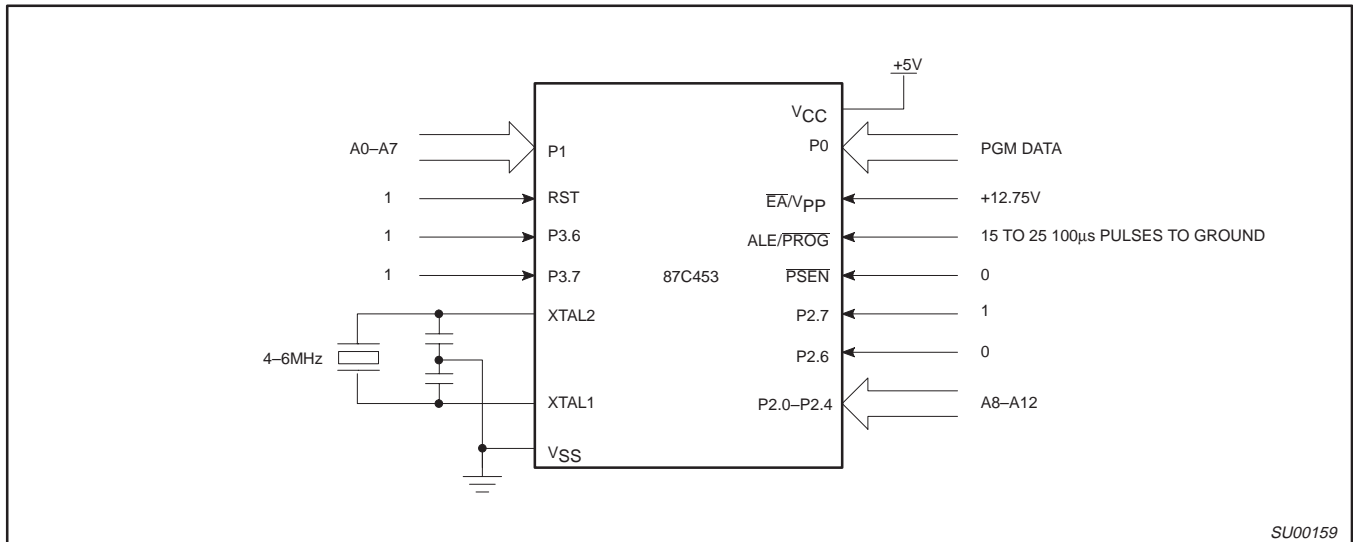
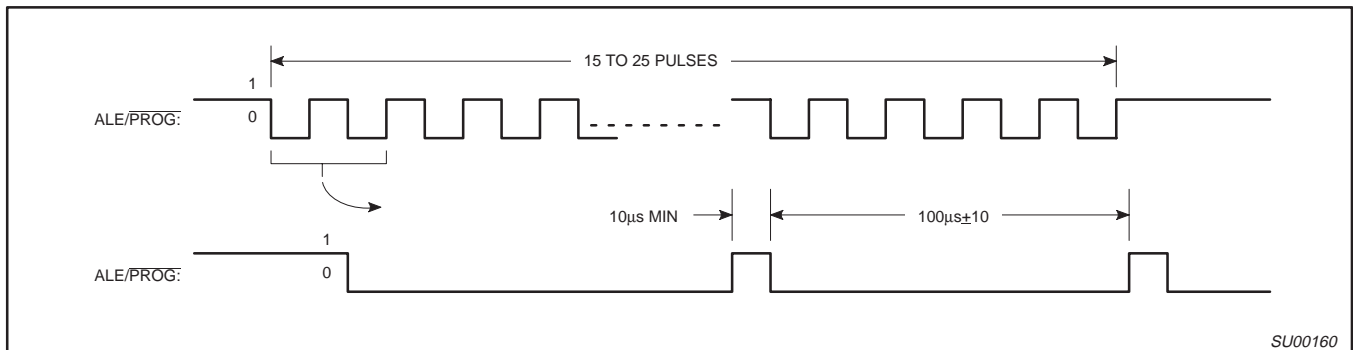
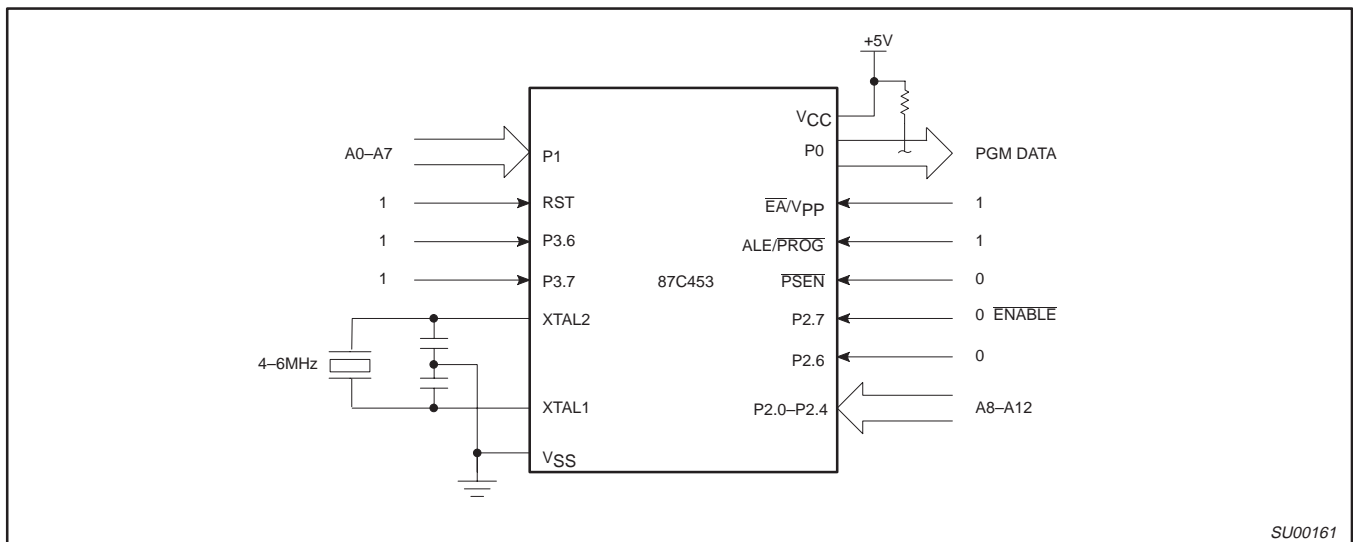

Figure 25. Programming Configuration
Figure 26. PROG Waveform
Figure 27. Program Verification
Table 5 shows the logic levels for reading the signature byte, and for programming the program memory, the encryption table, and the lock bits. The circuit configuration and waveforms for quick-pulse programming are shown in Figures 25 and 26. Figure 27 shows the circuit configuration for normal program memory verification.
The setup for microcontroller quick-pulse programming is shown in Figure 26. Note that the 87C453 is running with a 4 to 6MHz oscillator. The reason the oscillator needs to be running is that the device is executing internal address and program data transfers.
The address of the EPROM location to be programmed is applied to ports 1 and 2, as shown in Figure 25. The code byte to be programmed into that location is applied to port 0. RST, PSEN and pins of ports 2 and 3 specified in Table 5 are held at the 'Program Code Data' levels indicated in Table 5. The ALE/PROG is pulsed low 15 to 25 times, as shown in Figure 26.
If lock bit 2 has not been programmed, the on-chip program memory can be read out for program verification. The address of the program memory locations to be read is applied to ports 1 and 2 as shown in Figure 27. The other pins are held at the 'Verify Code Data' levels indicated in Table 5. The contents of the address location will be emitted on port 0. External pull-ups are required on port 0 for this operation.
* FOR PROGRAMMING VERIFICATION SEE FIGURE 25.
FOR VERIFICATION CONDITIONS SEE FIGURE 27.